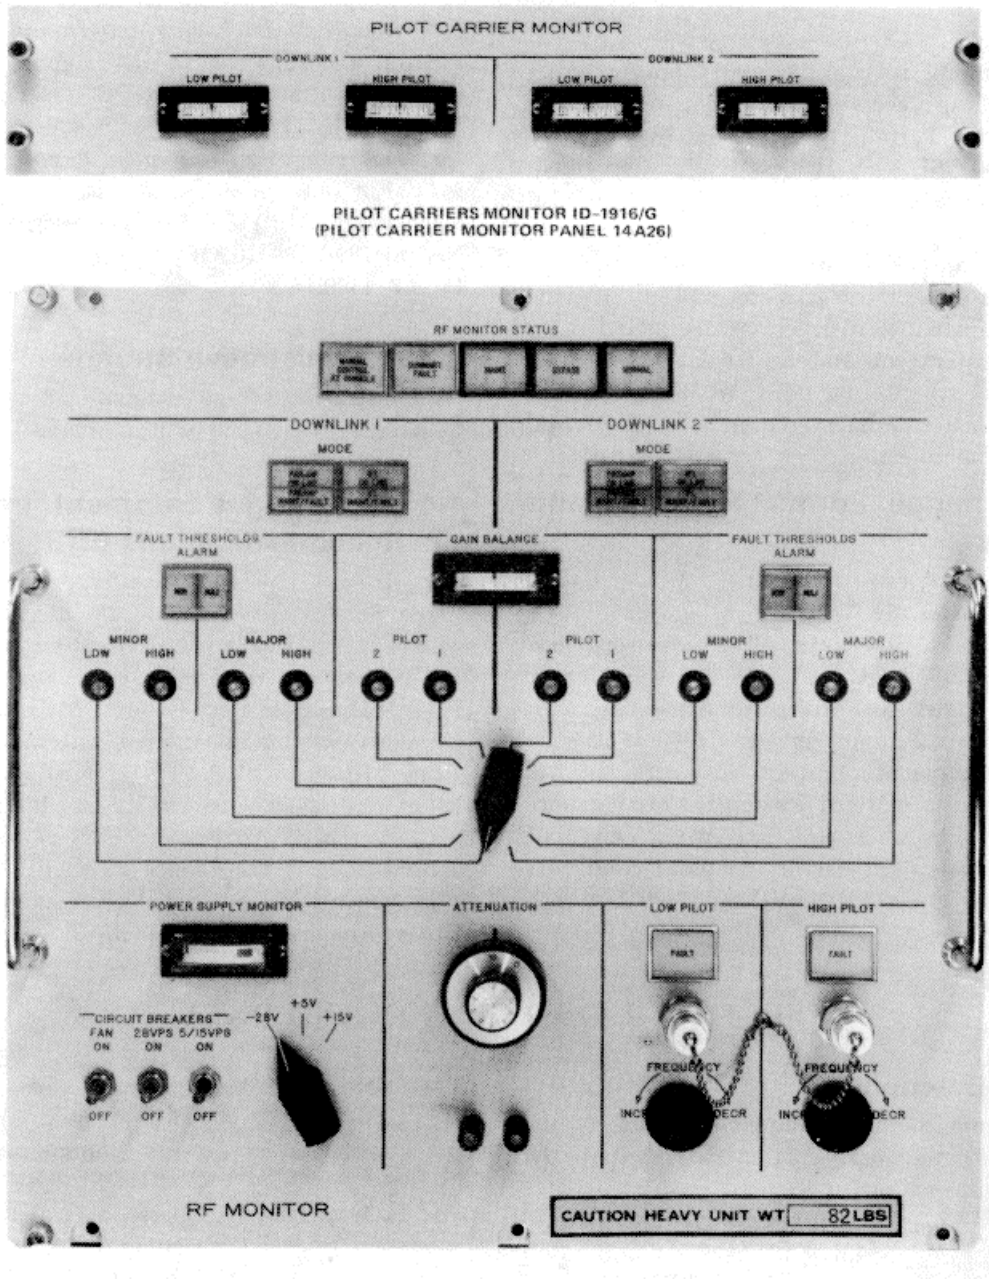
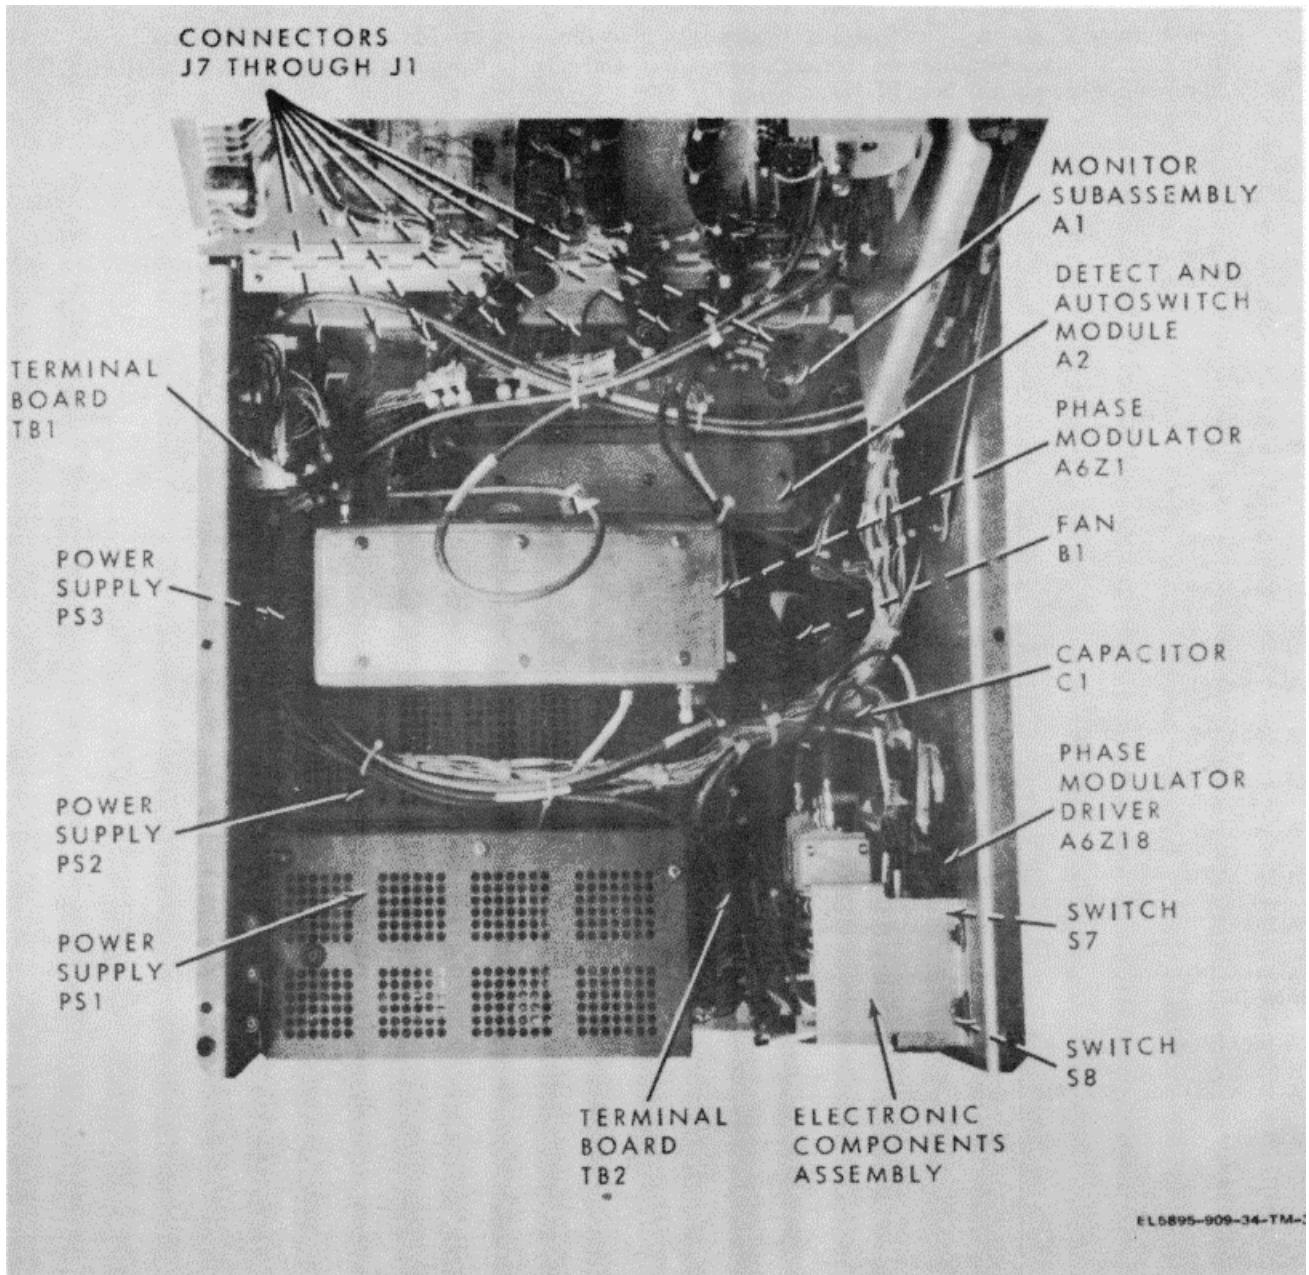

Figure 1-1. Receiver gain monitor equipment.
Figure 1-3. Receiver gain monitor HTA-3A6.
a. *Purpose and Use.* Receiver gain monitor equipment shown in figure 1-1 monitors amplifier gain. Downlink amplifiers consist of parametric amplifiers HTA-3A2. and HTA-3A3 (antenna unit HIA-3A2, and HTA-3A3) and Radio Frequency Amplifier AM-6644 G (receive interfacility link amplifier HTA-3A8). When perform-
h. Equipment Description (Fig. 1-1). The receiver gain monitor HTA-3A6).
1-7. Receiver Gain Monitor HTA-3A6 Description (fig. 1-3).
a. The receiver gain monitor continuously monitors the gain of parametric amplifiers HTA-3A2, and HTA-3A3 and receive interfacility link amplifier HTA-3A8. When online downlink signal level changes exceed preset major fault threshold levels, the receiver gain monitor places offline standby equipment on line. The front panel of the receiver gain monitor (fig. 1-1) contains controls, indicators, and test points for the following purposes:
(1) To control and indicate the status of the receiver gain monitor (RGMU STATUS indicators and switches).
(2) To indicate the status of the parametric amplifiers and receive interfacility amplifier (DOWNLINK 1 MODE and DOWNLINK 2 MODE indicators).
(3) To indicate the level of the four pilot signals (GAIN BALANCE meter and rotary switch).
(4) To indicate minor and major alarms in downlink 1 and downlink 2 amplifiers (FAULT THRESHOLDS ALARM indicators).
(5) To set threshold alarm levels and downlink pilot levels (12 potentiometers).
(6) To monitor the -28, +5, and +15 V dc power supplies (POWER SUPPLY MONITOR meter and rotary switch).
(7) To control power to the fan, to the -28 V dc power supply, and to the +5 and +15 V dc power supplies (CIRCUIT BREAKERS).
(8) To adjust output power levels from receiver gain monitor (ATTENUATION control).
(9) To monitor the settings of the 12 potentiometers when selected by rotary switch (test points below step attenuator).
(10) To indicate low pilot and high pilot faults (FAULT indicators).
(11) To monitor low pilot and high pilot signals (terminations and jacks below FAULT indicators).
(12) To adjust frequency of low pilot and high pilot signals (FREQUENCY control knobs).
b. When the front panel is open (fig. 1-3), internal components of the receiver gain monitor are visible. The +5 V dc power supply, PS3, is located below monitor subassembly A6. On the right side of the receiver gain monitor are connectors J1 through J7.